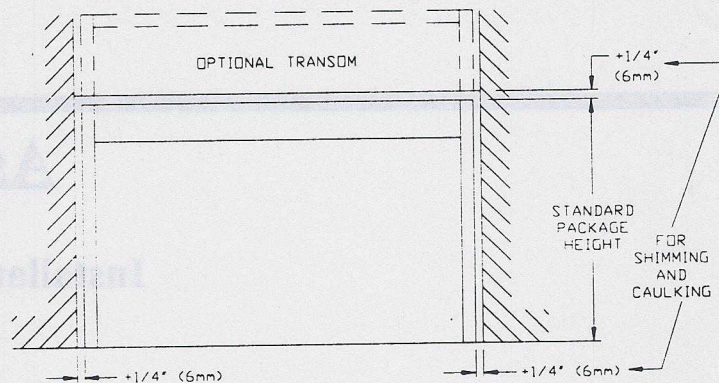

Figure 1: Checking the rough opening for clearances.
2. **Check Opening Dimensions:** Check the opening dimensions of any masonry opening, making sure to allow 1/4" at each side and top (See Figure 1) so that the frame and the header may be leveled, plumbed, squared, and caulked.